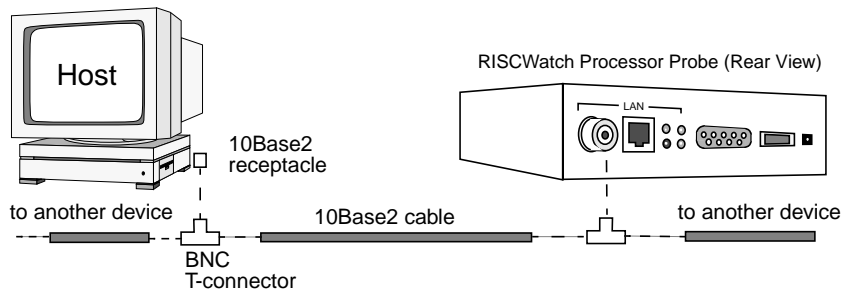

Figure 3-5. 10Base2 LAN Connection
- b. Attach the non-keyed side of the 2" cable to the 16 pin connector (see Figure 3-5).
- a. For customers with no current Ethernet network, a point-to-point connection should be configured. A 10Base2 connection between a host machine and the RISCWatch processor probe requires a pair of BNC T-connectors and 50-ohm terminators, plus a short length of 10Base2 ThinLAN cable, as shown in Figure 3-5.
- b. For a 10Base2 connection to a site-wide LAN with multiple devices, the terminators would not be used, as shown in Figure 3-5.
- c. For 10BaseT Ethernet, the connection can be made in two ways. If the connection is to be used exclusively between the host and the evaluation board (a 10BaseT point-to-point connection), a crossover cable must be used to connect the two nodes (see Appendix A for a diagram of the wiring for a 10BaseT crossover cable). Figure 3-5 shows a point-to-point Ethernet connection using a 10BaseT crossover cable:
d. Figure 3-5 shows a 10BaseT Ethernet connection using a hub: